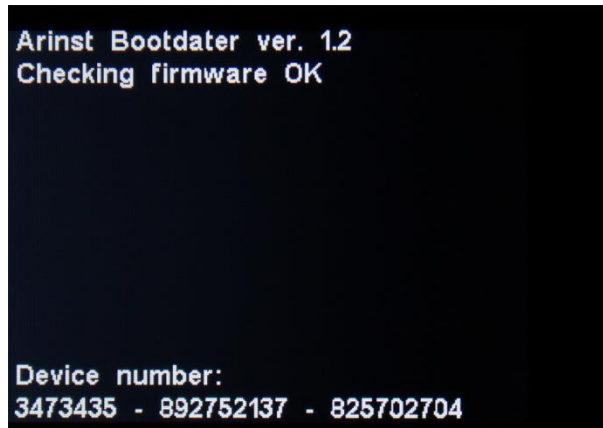

Figure A3. 1 - Successful firmware download
3.1. Standard firmware download without errors. The device screen displays its number and the result of checking the downloaded firmware (Figure A3. 1).